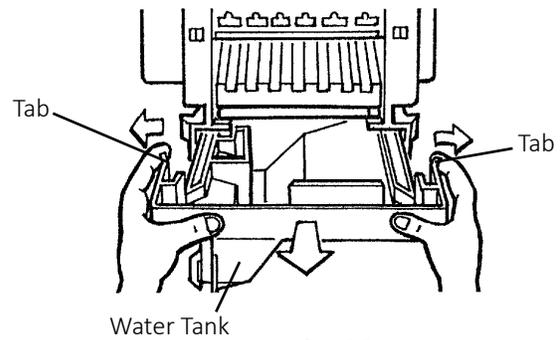

Fig. 30
5. Spread out the tabs to unlock the water tank, then slide it out. See Fig. 30.